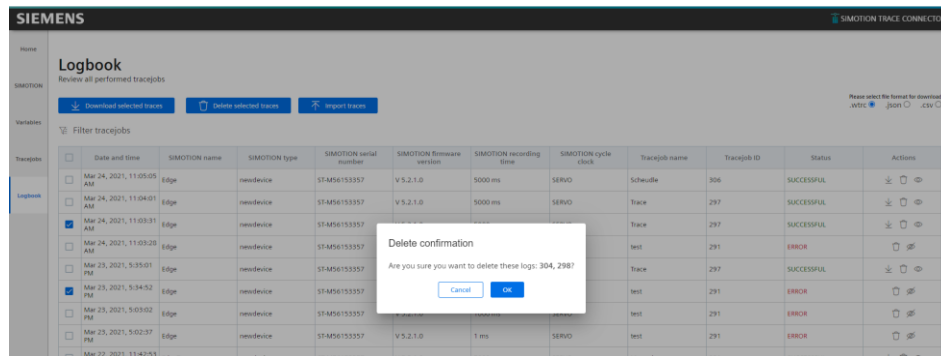

Figure 22 Logbook delete confirmation
2. Click on “Delete selected tracejobs” or delete” icon in the action column of the selected tracejob row for single tracejob deletion. After “Delete confirmation” screen should be opened (Figure 22)